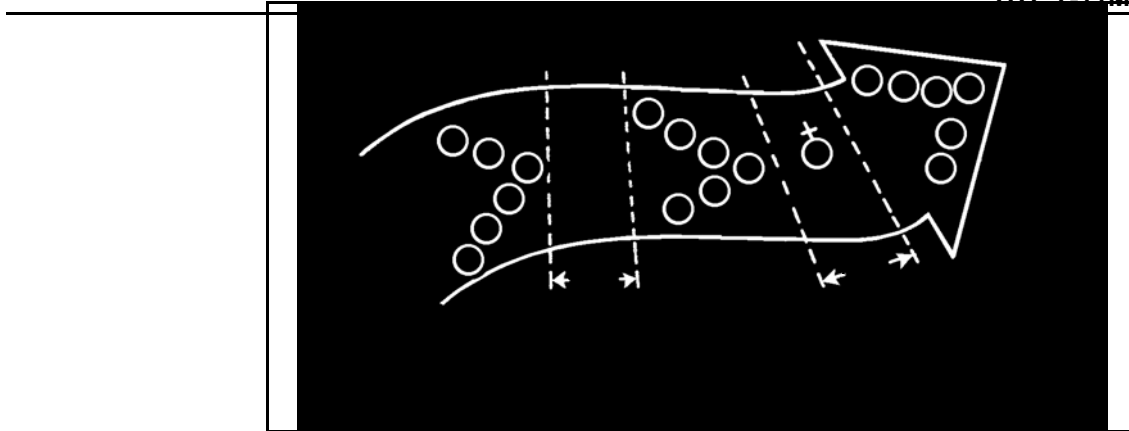

Figure 4. Dismount element—traveling.
a. Use the traveling technique when speed is important and contact with the enemy is not likely (Figure 4, page 3-258). The dismount element’s formation is adjusted to fit the situation. The fire team leaders normally move at the head of their teams so they have better control and can see the dismount element leader. The fighting vehicle element should be in position to support the dismount element, when possible.